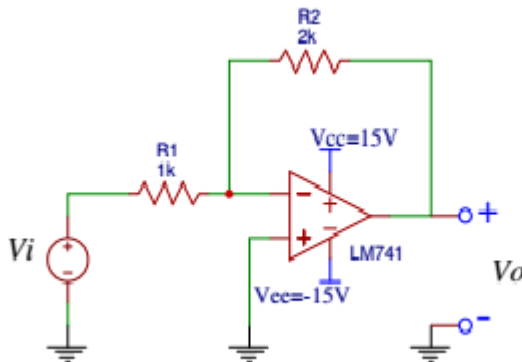
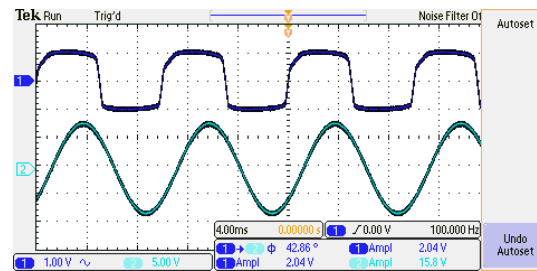

Figure 1: Our Amplifier circuit for Part 1
Figure 7: 1 V amplitude and 100 Hz Frequency on Figure 1 circuit
8. For this part I set the Voltage Source to 3 Volts and measured the current through our R1 (experimentally 0.988 kohms resistor) and R2 (experimentally 1.975kohms) from Figure 1. We obtained that the current through R1 was 2.987 mA. We have V_s , I1 current and know that the summing point constraint forces the voltage drop to 0.
- For this part of the lab we continued the circuit used in Figure 1; however, we used a function generator to sinusoidal signal with 1 V amplitude and 100 Hz frequency. Thus we obtained a signal observed in Figure 7, and can determine that the phase difference between the V_s and V_o was around 89° of the Voltage Source as a reference of time. Thus can lead us to the conclusion that the phase difference can be calculated $\text{Asin}(wt - x)$ where x is any point on the graph. Thus, theoretically $v_o = A_v V_i = (-2) (1 \sin(100wt)) = -2 \sin(200\pi t)$; $\sin(z) = \cos(z - 90^\circ) \sim \text{estimate of } 89^\circ \text{ phase difference}$.